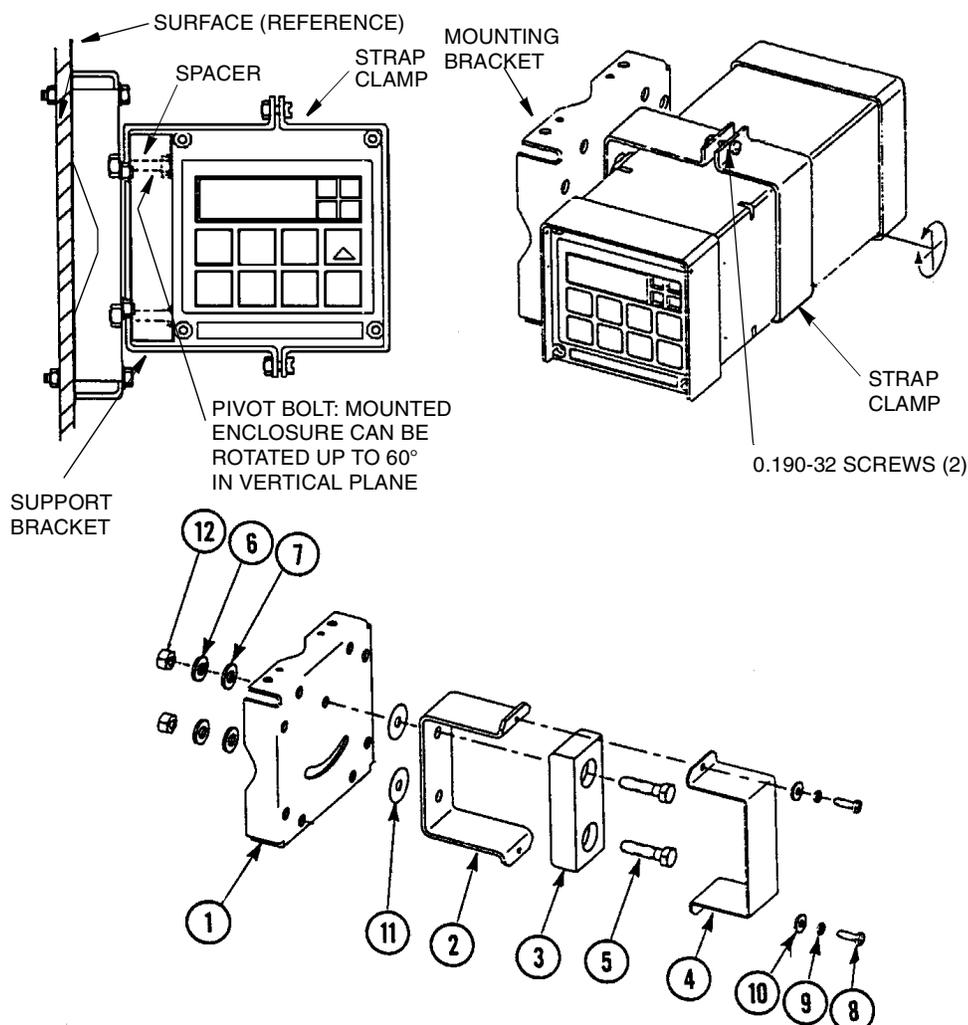

Figure 9. Field Enclosure - Fixed Mount
2. Referring to Figure 9, use mounting bracket as template for drilling four holes into mounting surface. Notice that holes in mounting bracket are 8.74 mm (0.344 in) in diameter. Do not attach mounting bracket to surface at this time.
- a. Place hex bolts (5) through spacer (3) into support bracket (2).
- b. Slide nylon washers (11) over bolts (5).
- c. Slide bolts through universal mounting bracket (1) and fasten assembly together with hardware designated 7, 6, and 12.
- d. Attach universal mounting bracket (1) to wall.
4. Slide Analyzer into support bracket and slide strap clamp (4) onto Analyzer. Using two screws, nuts, and washers, attach strap clamp to support bracket to secure Analyzer.